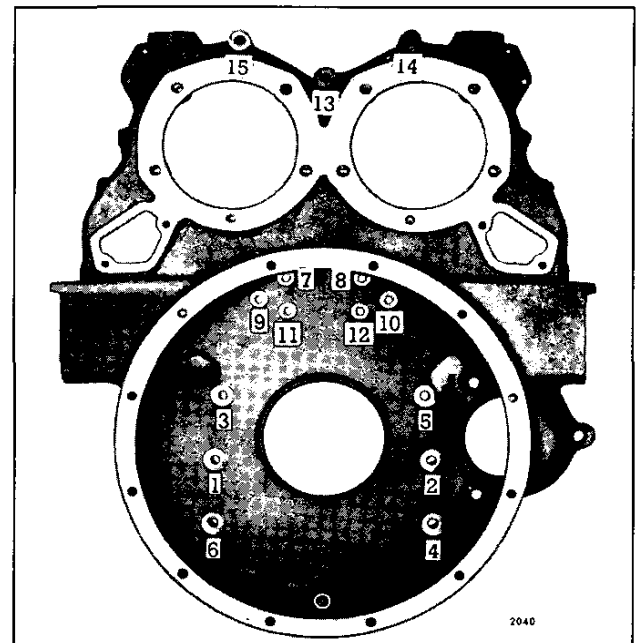

Fig. 6 - Flywheel Housing Bolt Tightening Sequence (Operation 2)—In-Line Engine
9. Refer to Fig. 6 for the final bolt tightening sequence on an In-line engine. Then start at No. 1 and tighten the bolts to the specified torque.